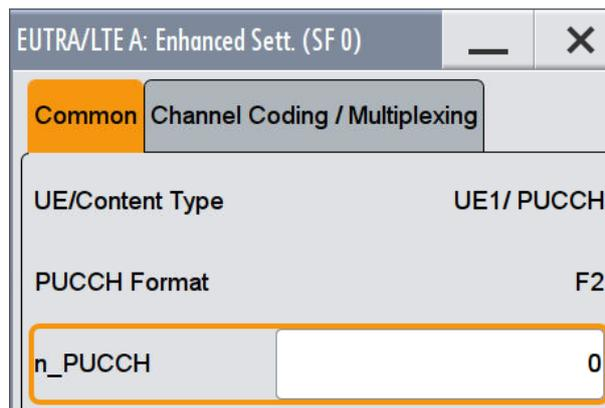

Fig. 3-94: Set the parameter n_PUCCH to 0
8. Set the resource index **n_PUCCH** to 0. (Fig. 3-94)